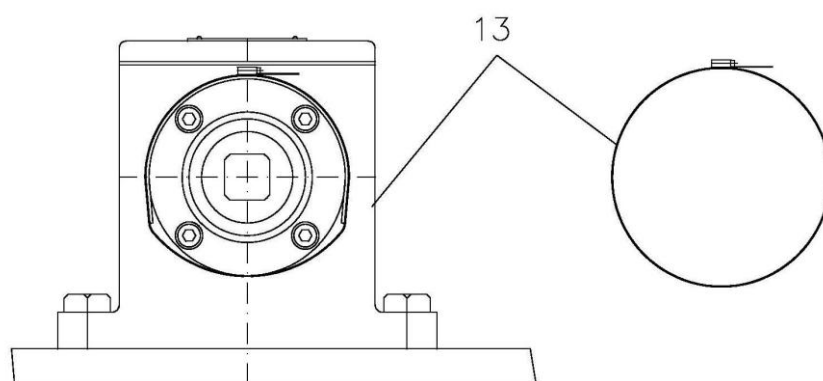

Fig.39– Fastening of the protective cover
11.3.3. The fastening of the protective cover (Pos. 11) upon the supporting rings (Pos. 10) must be done by means of clamps (Pos. 13, Fig. 39).